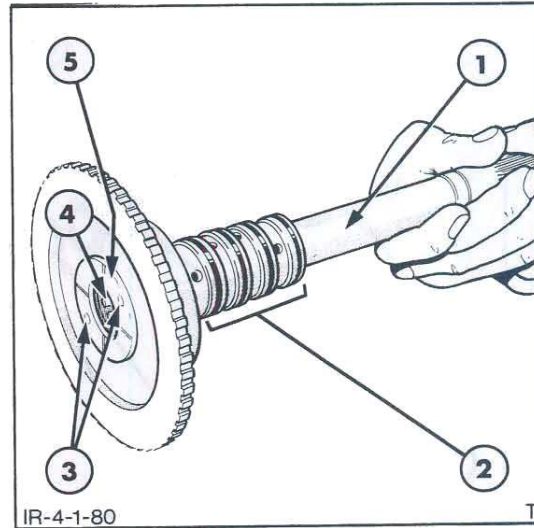

Figure 79
2. Check the ball bearing on the front input shaft, Figure 79, for smooth rotation. If the bearing is worn, a new one should be installed during assembly. Also check the needle pilot bearing in the rear face of the shaft for smooth rotation.
3. Inspect the front shaft sealing rings, Figure 79, for cracks and wear, and the sealing ring grooves for wear. Install new parts as required, during assembly. Check the shaft oil passages to be sure they are clean.